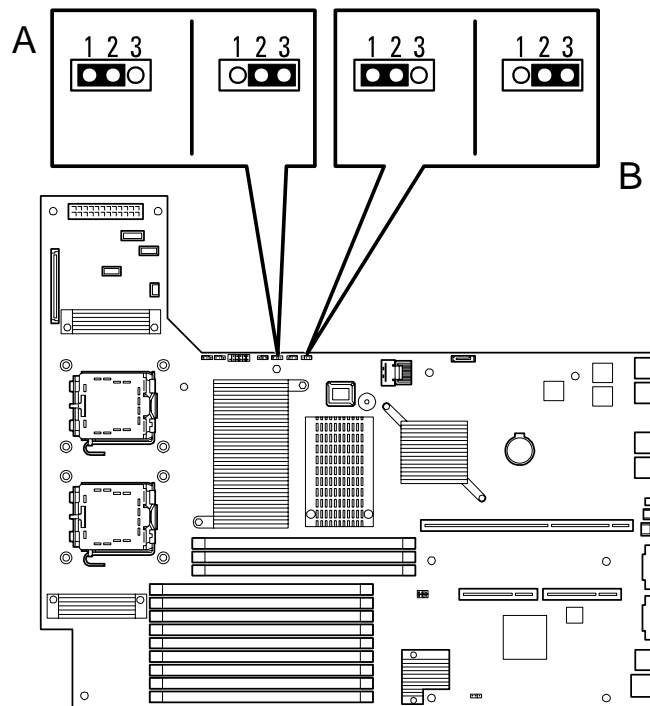

Figure 94: Clear CMOS & Clear Password Jumpers
3. Locate the position of the jumpers on the motherboard (see Figure 94: on page 153).